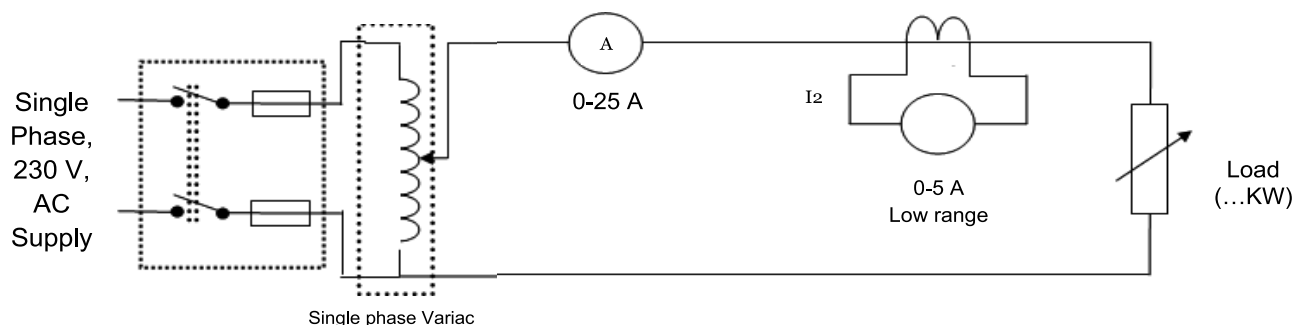

Figure 1: Extend range of ammeter using CT
1. Make the connections as per Figure 1.